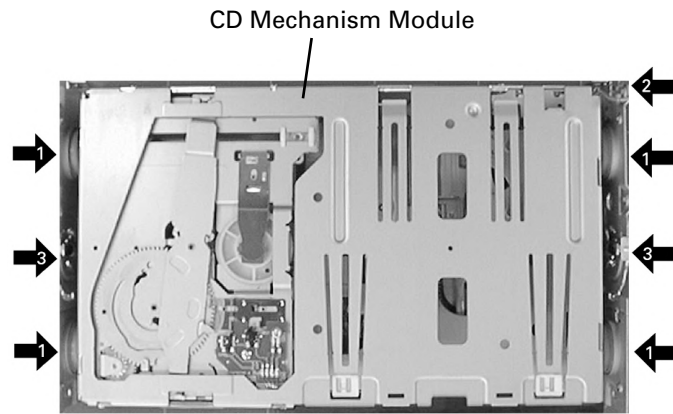

Fig.5
- 1** Remove the four dampers(Fig.5).
- 2** Disconnect the connector(Fig.5).
- 3** Remove the two springs(Fig.5).